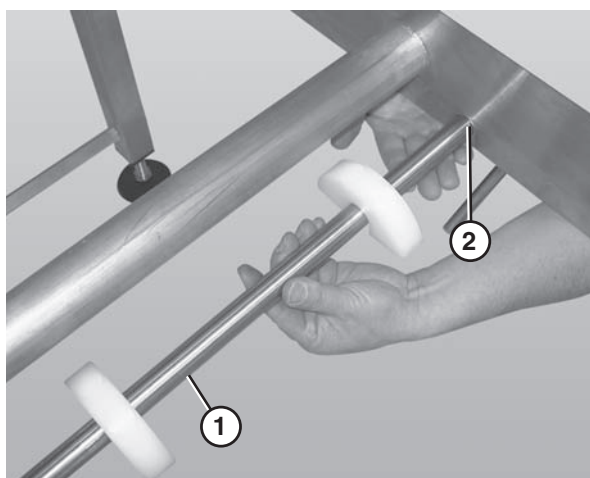

Figure 64
1. Remove the belt returns by pushing up on the return shaft (**Figure 64, item 1**) and sliding it through the large hole (**Figure 64, item 2**) in the frame.
2. Lower the opposite end of the return shaft (**Figure 64, item 1**) and slide it out of the frame.